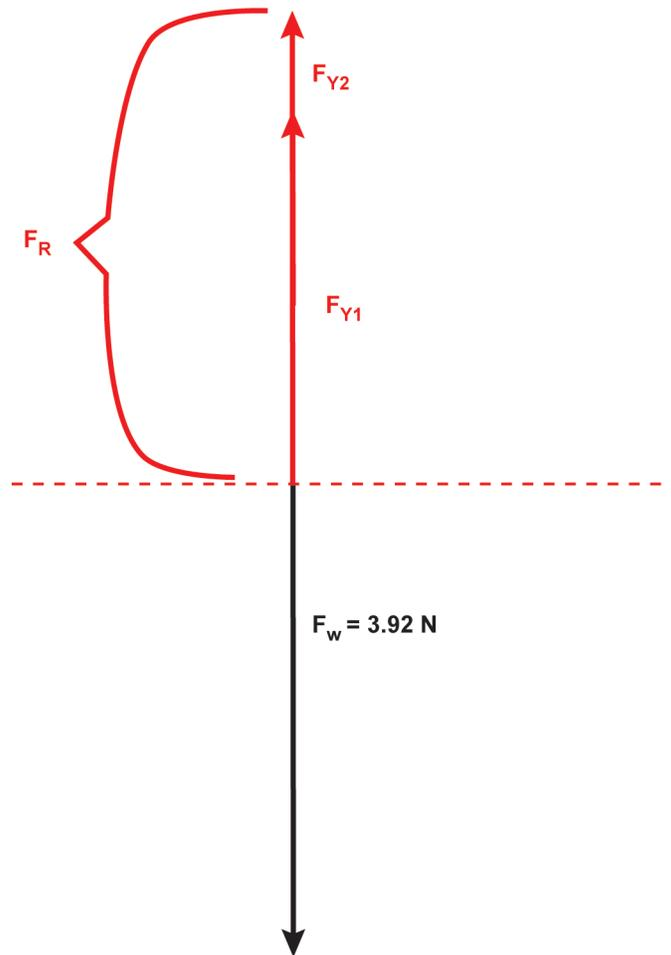

Figure 10
- 3. Since the vertical components are acting in the same direction, they can be added as shown in Figure 10. The summation can be written as: